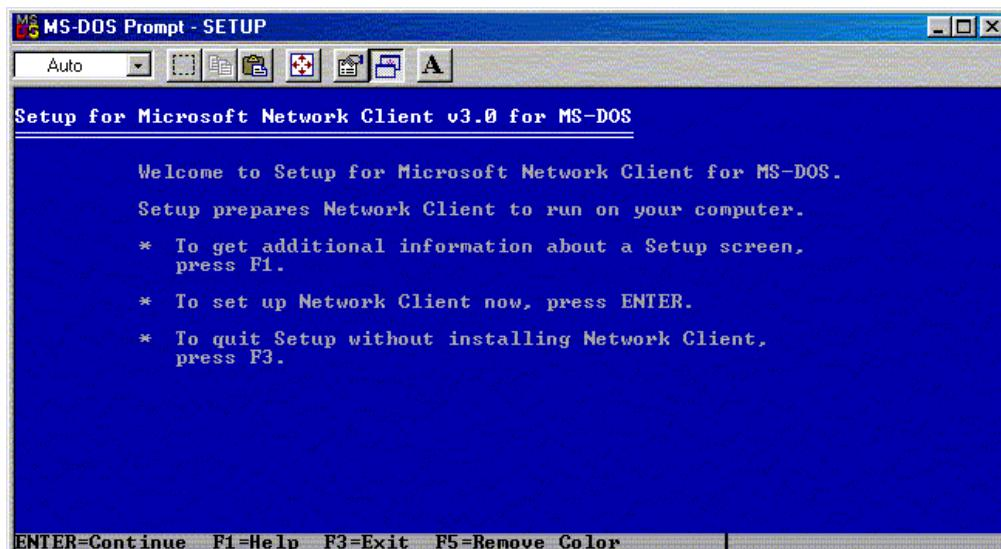

Figure A-6: Initial Network Client 3.0 installation screen
3. Change to the diskette drive and launch the setup file from the diskette drive by entering SETUP at the DOS prompt. A screen similar to Figure A-6 is displayed.